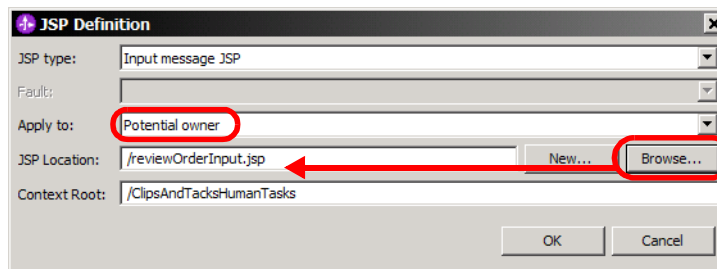

Figure 9-41 JSP selection for a human task
- ▶ In the JSP Definition dialog select *Input message JSP* for type and *Potential owner* for apply. The click *Browse* and locate the `reviewOrderInput.jsp` in the `ClipsAndTacksHumanTasks` project (Figure 9-41). Click *OK*.